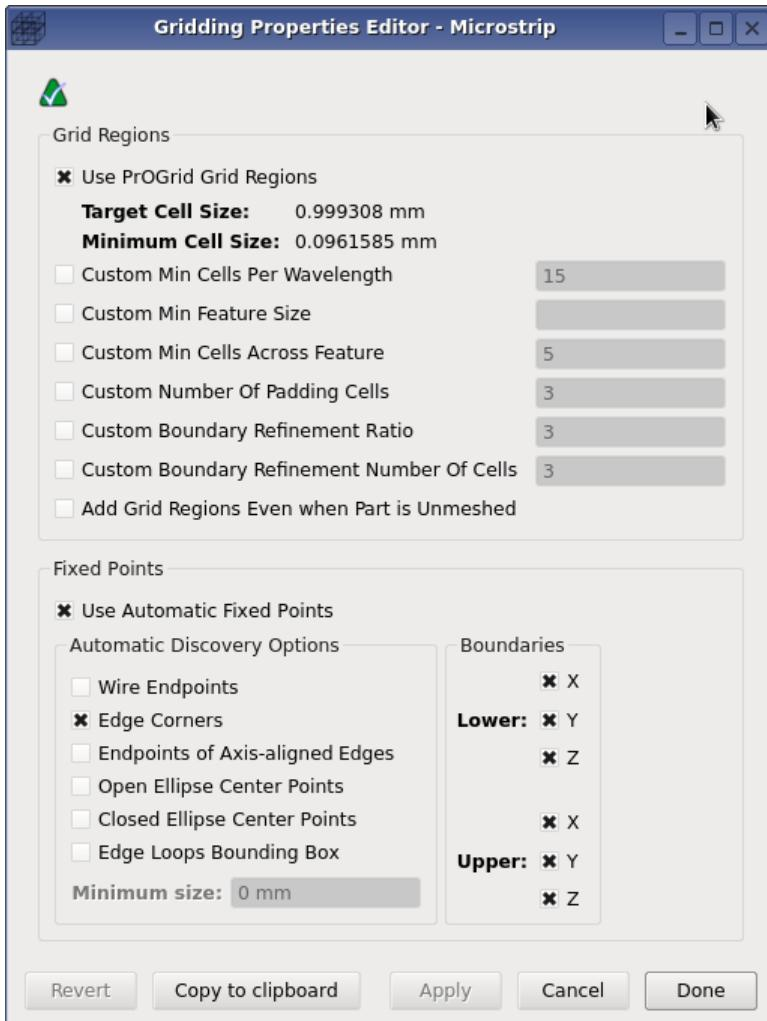

Figure 3.34: Adding automatic fixed points to the Microstrip
A fixed point indicates a location of geometric significance to the grid generation process and enables the mesh to accurately represent the underlying geometry. These points can be placed automatically or manually at any location in space. With Automatic Fixed Points, XFDTD places fixed points at locations where a part has one of several key geometric features. In this Patch Antenna project, for example, the width of the Stub will not be captured exactly unless automatic fixed points are used. This is illustrated at the default original location of the Stub (with Parameter “x” set to “7.14”) in Figure 3.34 below. Here, the Meshed representation of the Stub is wider than its CAD representation, which may lead to an inaccurate result. Adding fixed points will allow us to accurately capture the Stub width. Furthermore, when we move the Stub (by sweeping the Parameter “x”), the Automatic Fixed Points will move along with the changes to the geometry, and the Mesh remains accurate.
- Click the USE AUTOMATIC FIXED POINTS checkbox as shown in Figure 3.34.